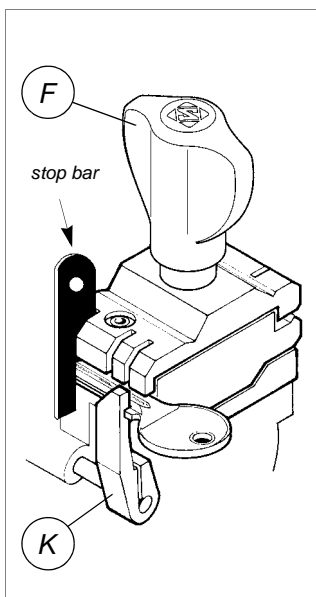

Fig. 18
- b) the key stop butts against the gauge (K) or, in the absence of a stop, the tip of the key is against the stop bar (fig.18).
- c) close the jaws by turning the knobs (F).